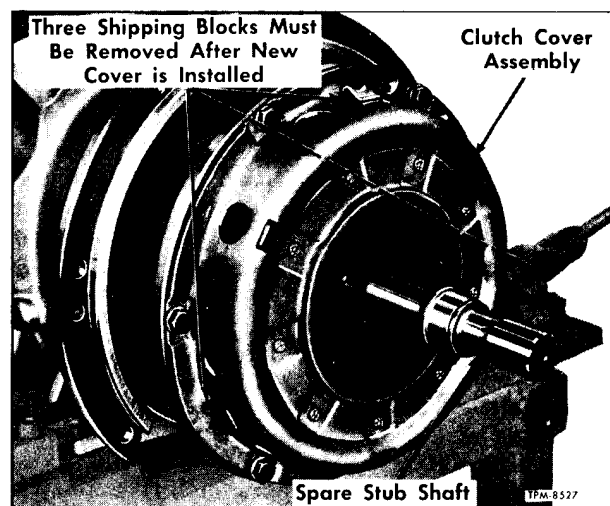

Figure 68—Using Spare Stub Shaft to Align Clutch Components
2. Using a stub shaft as shown in figure 68 to align clutch drive plate, install cover attaching bolts (26) with lock washers alternately to compress clutch spring evenly and prevent possible distortion of cover flange. Remove stub shaft when all bolts are tightened to 40 foot-pounds torque.
IMPORTANT: If a new cover assembly was installed, pry three shipping blocks from around cover. Blocks are located as shown in figure 68.
2. Make sure three shipping blocks shown in figure 68 are removed if a new clutch cover and member assembly is to be installed.